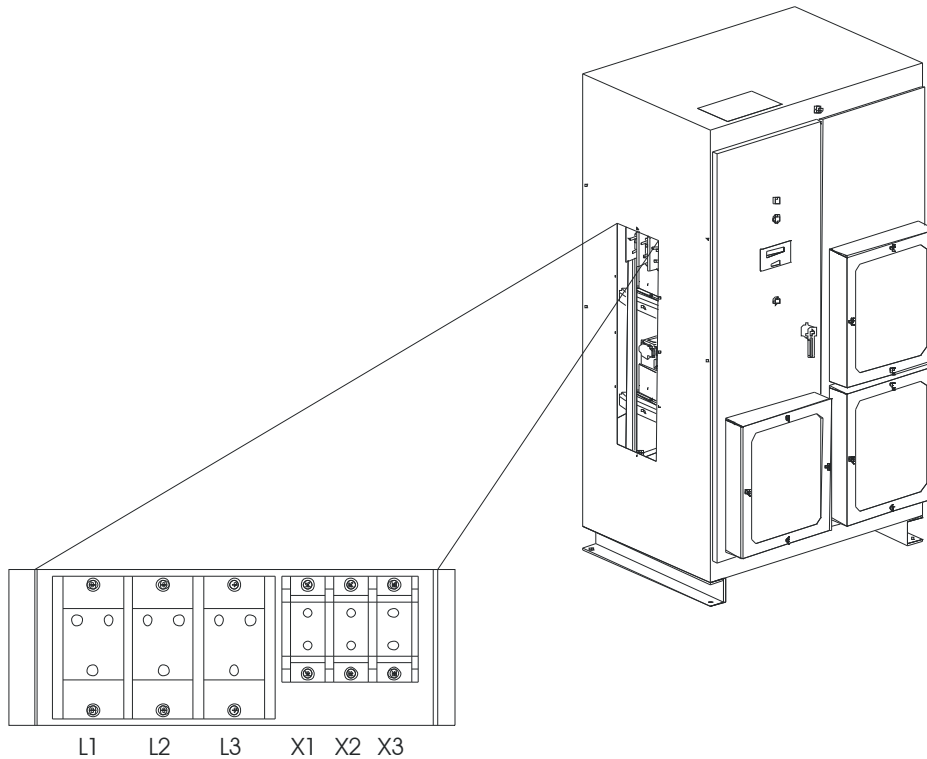

FIGURE 4: System Interconnection Terminals
The ProDySC enclosure is provided with power terminals on the left side panel for electrical interconnections to the Bypass Switchboard enclosure, as shown in Figure 4. If only front access is possible, system interconnect wiring should be performed only by SoftSwitching Technologies technicians.
- ❑ Connect Bypass Switchboard enclosure cables labeled **X1, X2, X3** to the ProDySC enclosure on terminals labeled **X1, X2, X3** see Figure 4. Torque these connections to 200 LB.IN. These cables are supplied, and are located within the rear of the Bypass Switchboard enclosure.